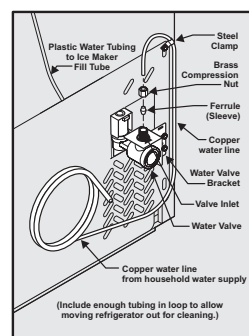
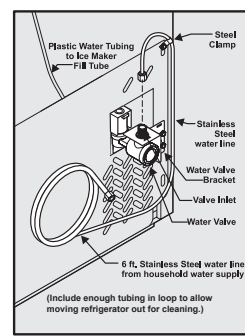

Figure 1
Figure 2
- If you use copper tubing - Slide brass braided, flexible nut, then ferrule (sleeve) onto water supply line. Push water supply line into water valve inlet as far as it will go (1/4 inch/6.4 mm). Slide ferrule (sleeve) into valve inlet and finger tighten nut onto valve. Tighten another half turn with a wrench; DO NOT overtighten. See Figure 1. If you use stainless steel tubing - The nut is already assembled on the tubing. Slide nut onto valve inlet and finger tighten nut onto valve. Tighten another half turn with a wrench; DO NOT overtighten. See Figure 2.